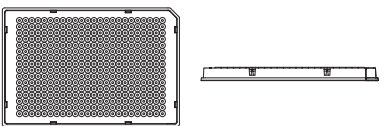

Figure 4: Full-skirted 384 well microplate with one notch and alphanumeric coding suitable for ABI
1. Full-skirted 384 well microplate with one notch suitable for ABI (Fig. 4)